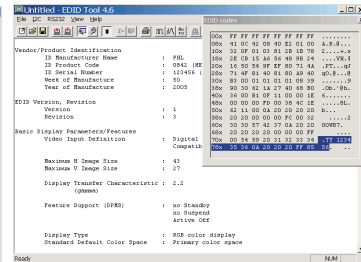

Fig. 34
4. Click icon (Read EDID function) to read DDC EDID data from monitor. The EDID codes will display on screen as shown in Fig. 34.